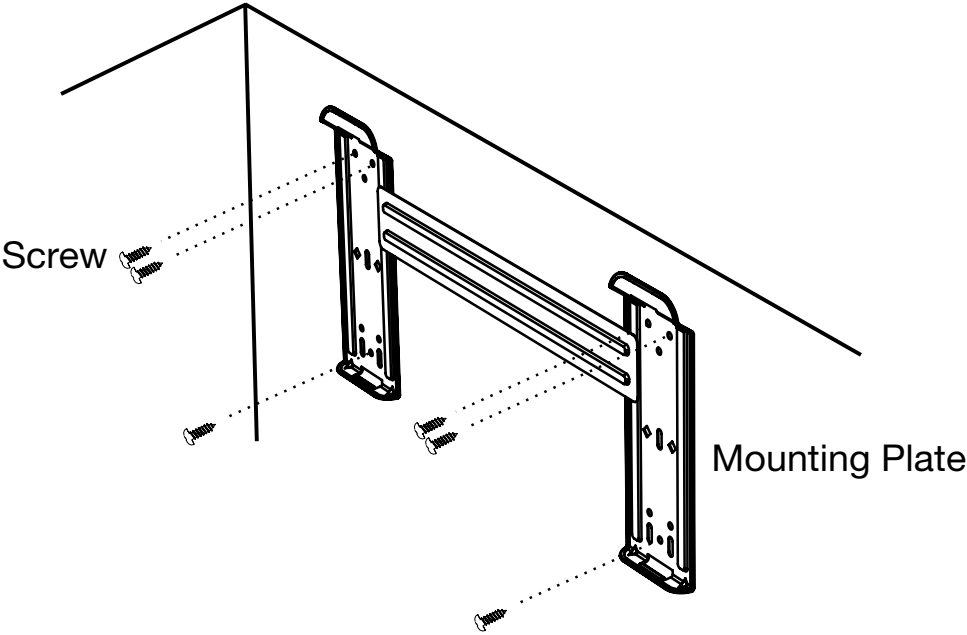

Figure 2.1
- 3. Mount the bracket on the wall using the 6 screws provided. Be sure that you are screwing directly into the two studs found earlier. If your wall does not have a stud, you will need to use wall anchors (Mollies) to secure the mounting bracket. (see Figure 2.1)